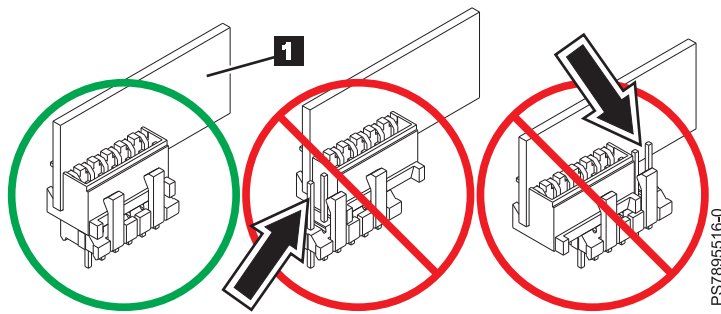

Figure 28. Installing the management card
To install the management card, which is shown by **1** in Figure 28, complete the following steps:
4. Insert the management card (as shown by **1** in Figure 28) and verify that the card is securely on the connector and pushed down all the way to the main board.